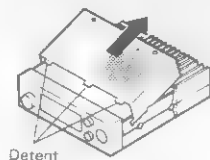

Fig. 1
2. Carefully remove the top cover. (Fig.1)
1. Remove the 2 screws securing the Top cover. Carefully remove the top cover. (Fig. 1)